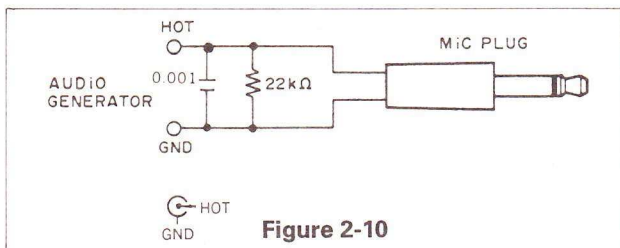

Figure 2-10
- a) Set the supply voltage and channel frequency of the transceiver to 7.2 V DC and 435.000 MHz. Connect the microphone plug as shown in Figure 2-10 below in to the external microphone jack, and adjust R397 so that the frequency deviation is  $\pm 5$  kHz provided that the AG output is a sine wave of 1 kHz, 60 mV.
- Set the supply voltage and channel frequency of the transceiver to 7.2 V DC and 145.990 MHz. Connect the microphone plug as shown in Figure 2-10 below in to the external microphone jack, and adjust R395 so that the frequency deviation is  $\pm 5$  kHz provided that the AG output is a sinewave of 1 kHz, 60 mV.